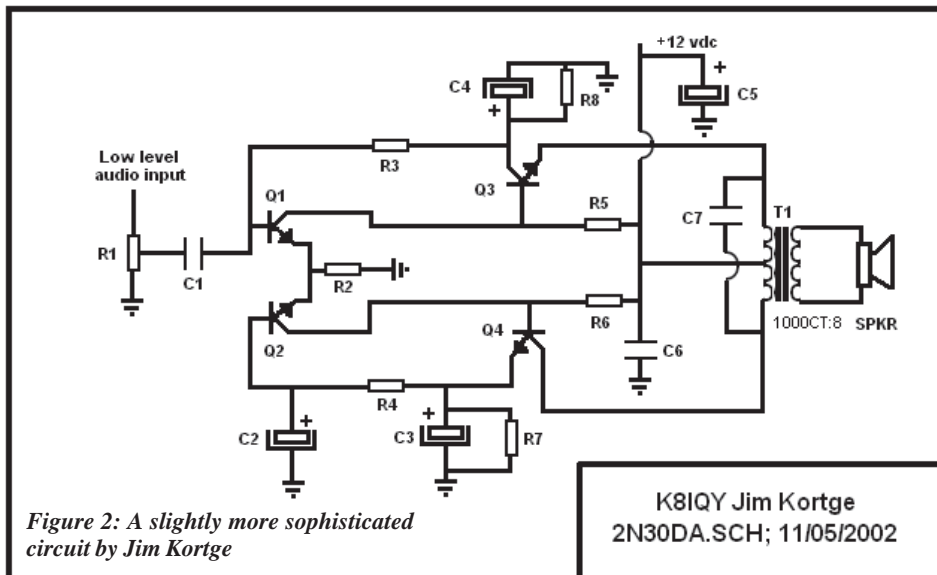

Figure 2: A slightly more sophisticated circuit by Jim Kortge
The next figure, Figure 2, uses NPN transistors and an output transformer to provide audio amplification. Photo B is a picture of the completed circuit.(2) Again, the volume control is panel mounted and does not show in the picture.